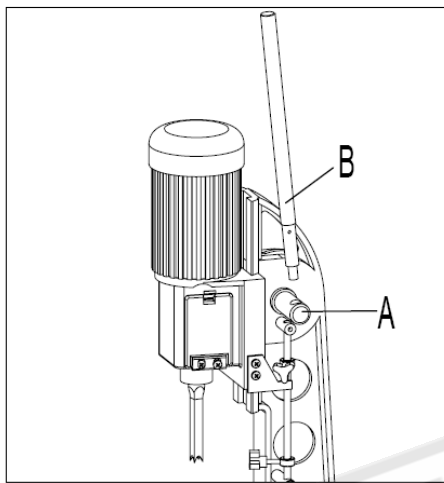

Fig 2
1. Assemble hub of handle assembly (A) Fig. 2,